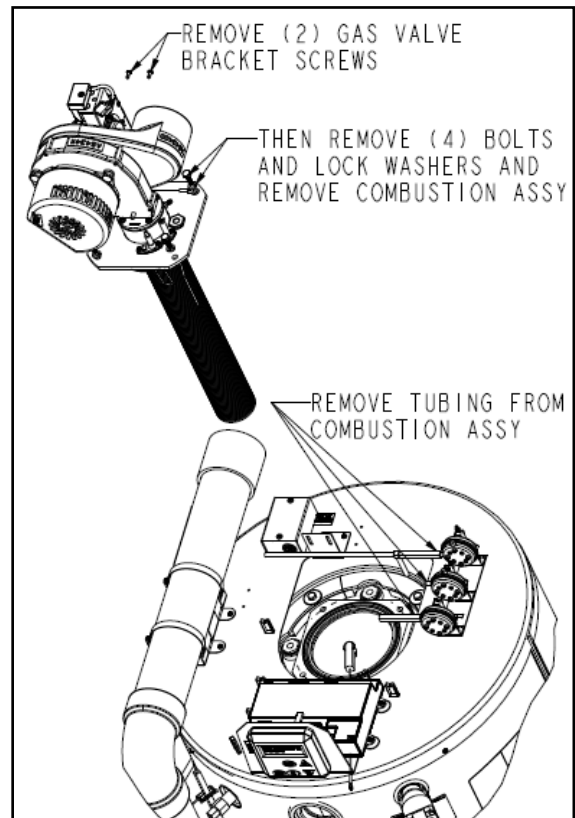

Figure 3
- b. Remove the two screws in the gas valve bracket. (Figure 3).
- d. Lift the combustion assembly out of the heater (Figure 3).